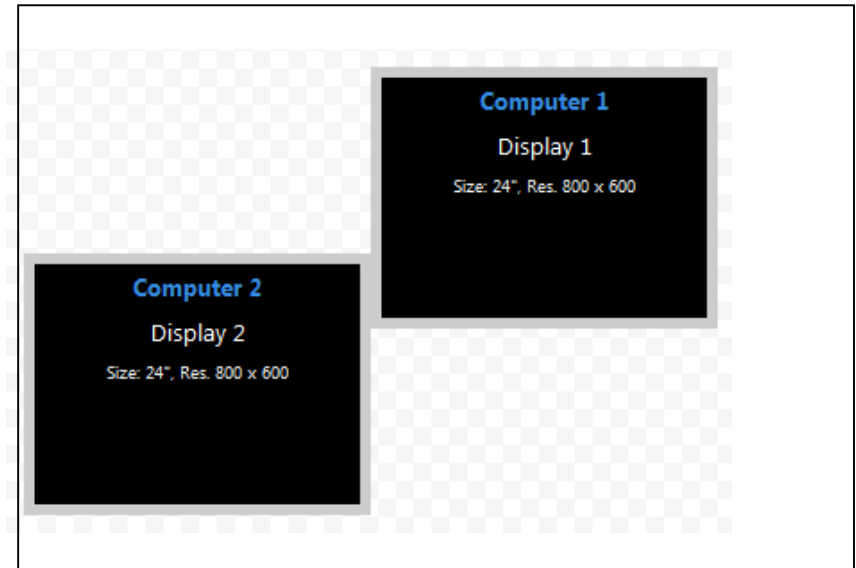
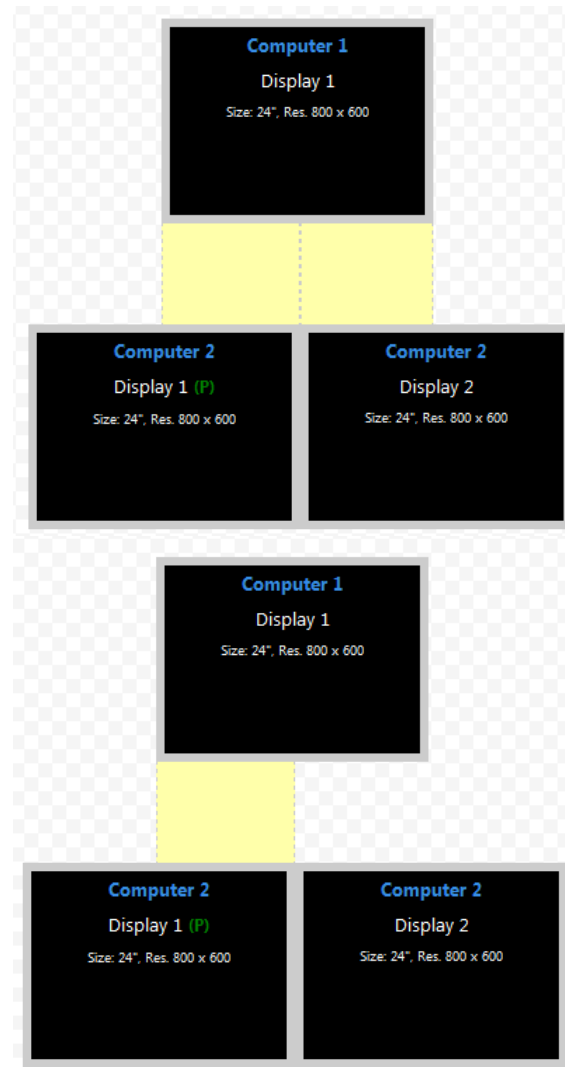

Figure 10 – Legal corner to corner setup
Figure 11 – Yellow area removed at the right side
**Example 3** - The setup in figure 10 below is illegal. There is no interface between the two displays hence the cursor will not move. It is recommended to use the setup in figure 11 below instead which will give similar positions but will work.